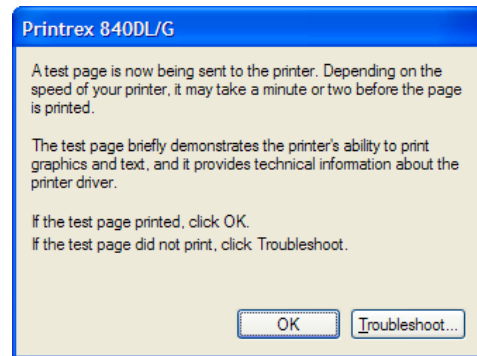

Figure C-4: Always click OK.
5. Select the General tab, and click 'Print Test Page'. Click OK to the popup dialog in all cases (Figure C-4).